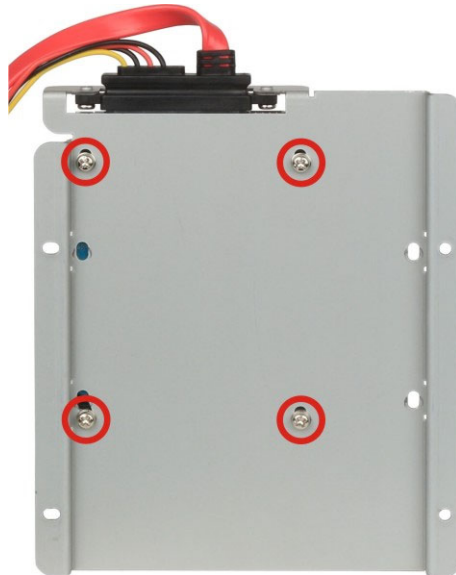

Figure 3-7: 2.5" HDD Retention Screws
Step 4: Secure the hard drive to the bracket. Secure the hard drive to the bracket with four retention screws as shown in **Figure 3-7**.